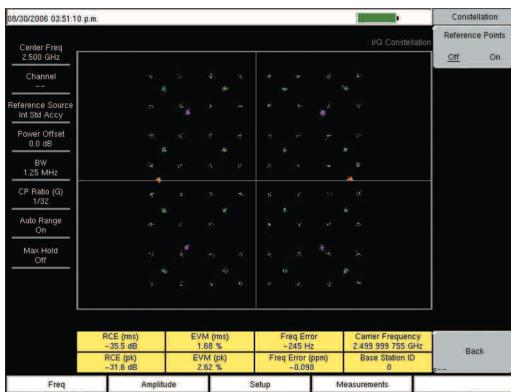

Figure 8A. Constellation with reference points off.
5. Press the Reference Points soft key to switch them On or OFF (Figure 8A and B).